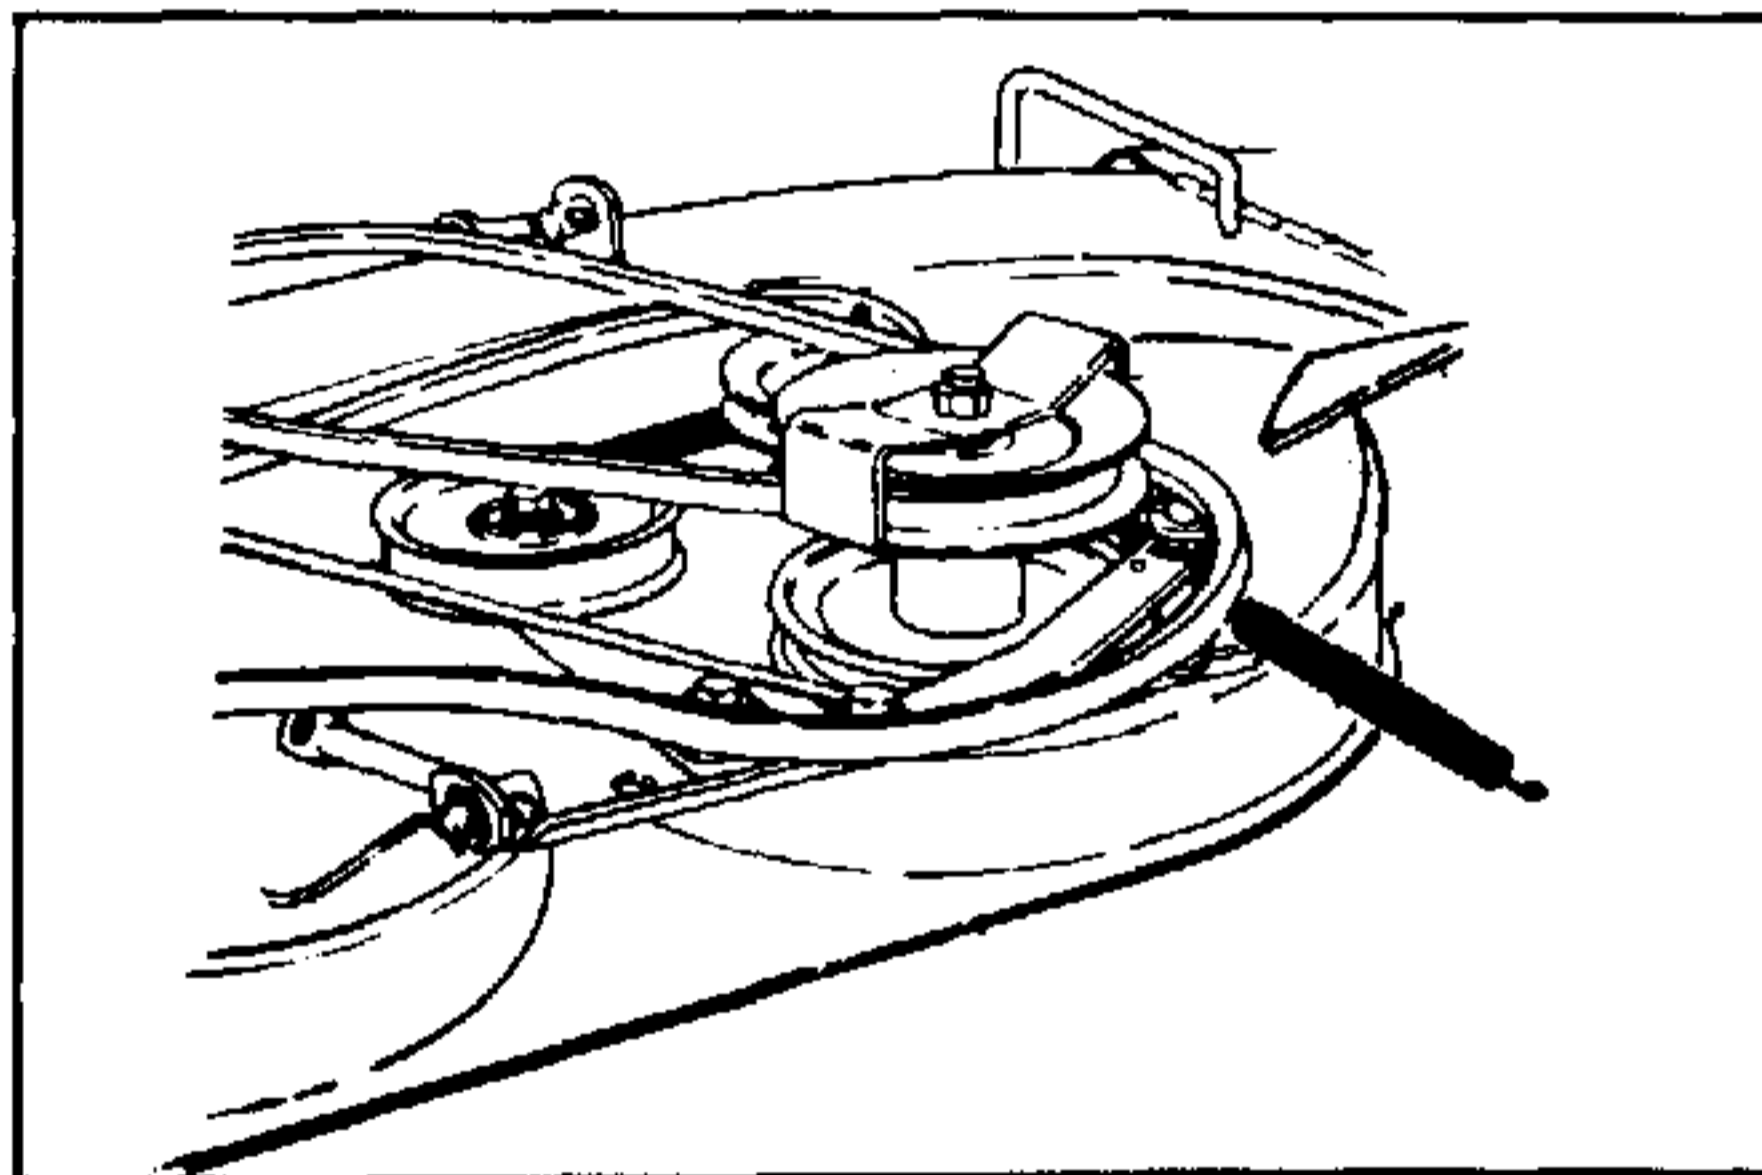

FIGURE 25.
4. Refer to figure 25 and remove the spindle drive belt from the double drive pulley and from the spindles.